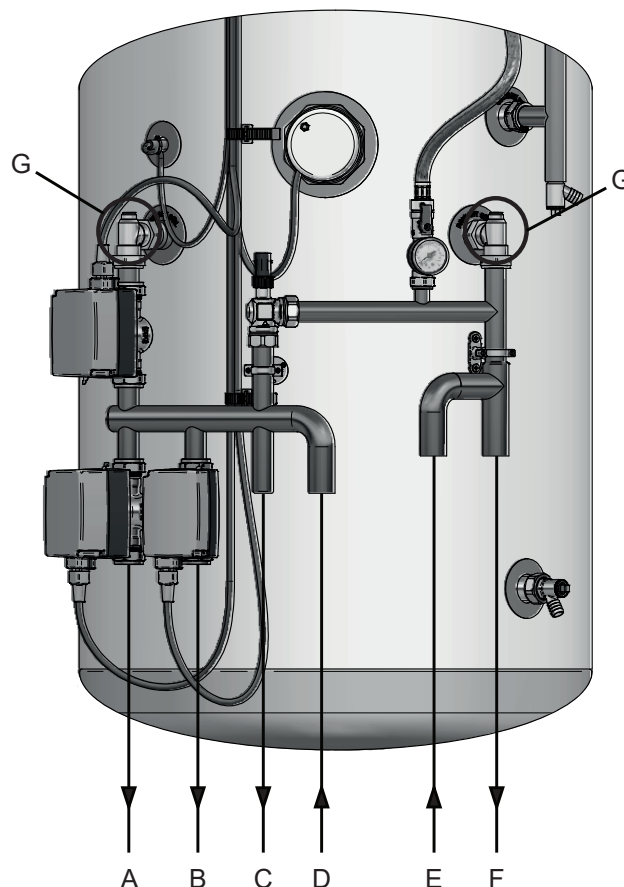

Figure 3-1: Primary circuit connections
Make the primary circuit and heat pump connections to the cylinder as follows (Refer to Figure 3-1):
1. The primary flow and return connections from the heat pump should be made to cylinder connections D and F respectively (refer to Figure 3-1 and Table 3-1).
2. The primary flow to heating zone 1 should be made to cylinder connection A (refer to Figure 3-1 and Table 3-1).
3. The primary flow to heating zone 2 should be made to cylinder connection B (refer to Figure 3-1 and Table 3-1).
4. If required, the primary flow to heating zone 3 should be made to cylinder connection C (refer to Figure 3-1 and Table 3-1).
If a third heating zone is required, the tail of pipe C (see Figure 3-1) will need to be trimmed as it has been soldered shut during production.
If a third heating zone is to be connected to cylinder connection C (refer to Figure 3-1), the pipe tail should be cut using a pipe slicer or pipe cutter - to leave the pipe ends with a slight radius and free from any burrs or sharp edges.
5. When filling the primary circuit, the manual air vents situated on the flow and return connections to the indirect coil can be used to vent air from the indirect coil (refer to item G in Figure 3-1).
To prevent gravity circulation when the heat pump switches off, three 2-port motorised valves have been supplied fitted to the cylinder after the primary flow pipe from the ASHP (see item D, Figure 3-1). They should be wired in accordance with Figures 5-2 and 5-3 to ensure that, when used with a Grant Aerona Heat Pump, the installation will comply with current legislation.
Table 3-1: Key to Figure 3-1
A 18 litres per minute flow restrictor (supplied) has to be installed in the primary coil in the ASHP flow connection (See item D in section 3.4 in Figures 3.1 and Table 3-1) if an ASHP is to be used as a primary heat source. Otherwise it won't be required.